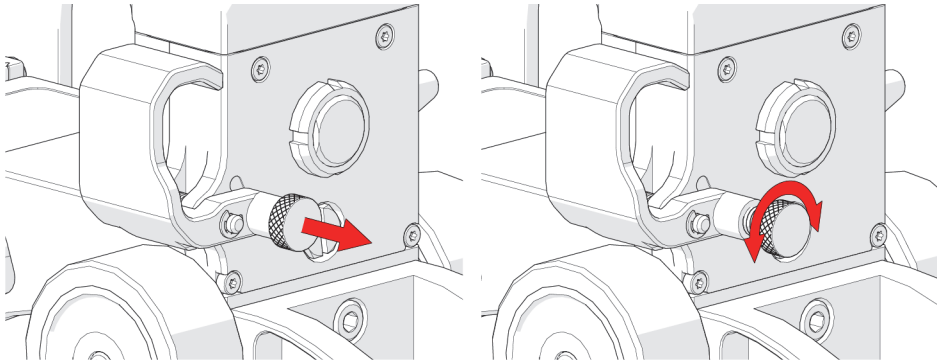

Figure 2-10 Pull and twist latch to open
1. Pull the latch to open the cable management clip (see Figure 2-10 on page 44).
2. Twist the latch to prevent the latch from locking and to allow the clip to open freely (see Figure 2-10 on page 44).